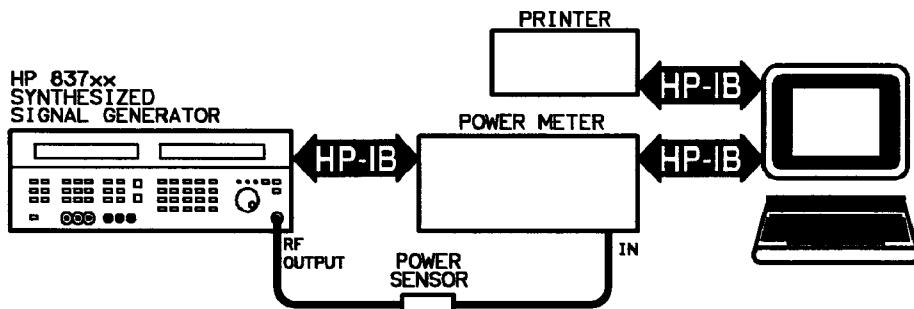

Figure 7-10. 0.01—1 GHz Frequency Calibration 1 Equipment Setup
2. Set up the equipment as shown in Figure 7-10.